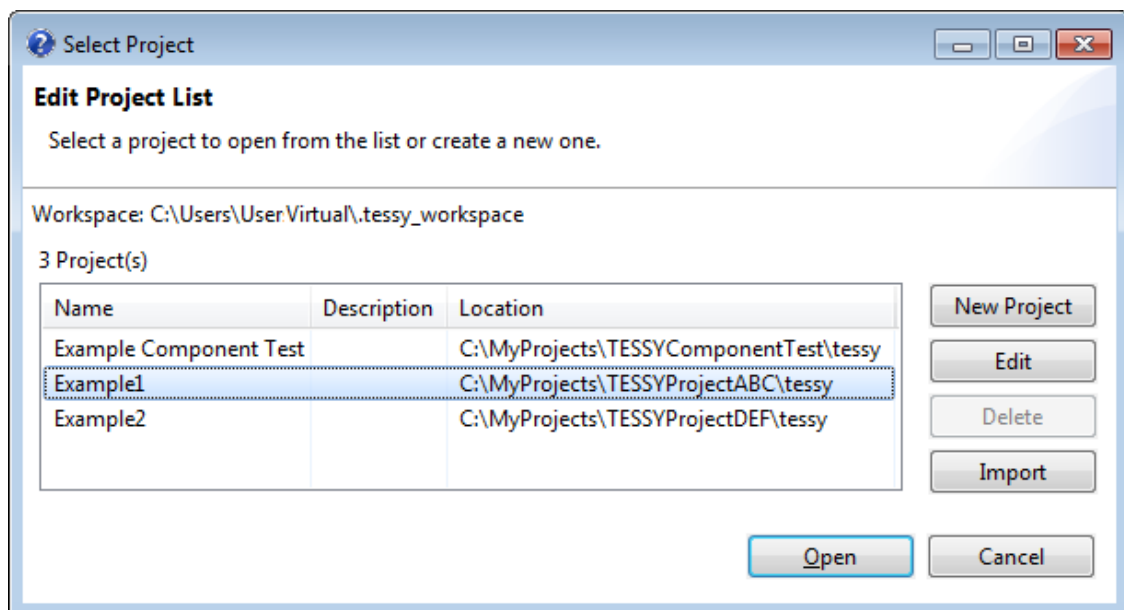

Figure 5.3: New project “Example1” is created
- TESSY now creates the project “Example1” (see figure 5.3). This will take a few seconds.